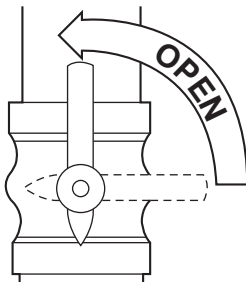

Fig. 14 - Open Valve
9. Open the external manual gas valve. See Fig. 14.